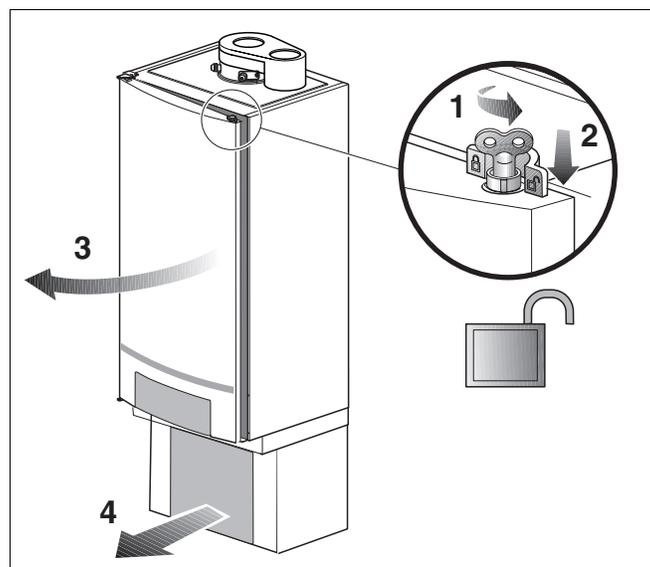

Fig. 76 Opening the boiler door
- Turn the vent key through a quarter rotation to undo the boiler door lock (fig. 76, see detailed picture).
- Push the fastener down (fig. 76) and open the boiler door.